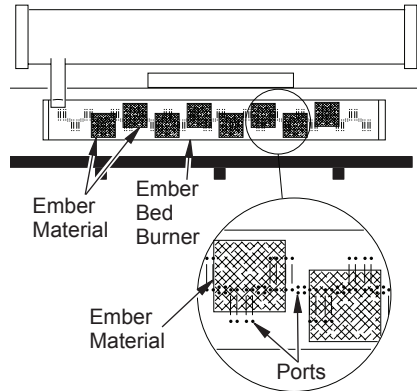

Figure 27 - Placement of Embers
7. Add embers to front ember bed burner. Gently remove embers from the bag using gloves or tweezers. **(This material is a skin irritant. Gloves or tweezers are recommended to prevent skin irritation).** Separate pieces of ember material, pull apart and place on surface of ember bed burner as shown in Figure 27, page 19. **Do NOT overlap ember material. Only edges will glow. Do NOT place ember material in area of pilot or rear burner.**
⚠ WARNING: Do not operate unit without ember material correctly in place as shown in Figure 27. Do not overlap ember material. Do NOT place ember material anywhere else on the unit. Use only ember material supplied with unit. Excessive or incorrectly placed ember material may produce carbon monoxide or soot.